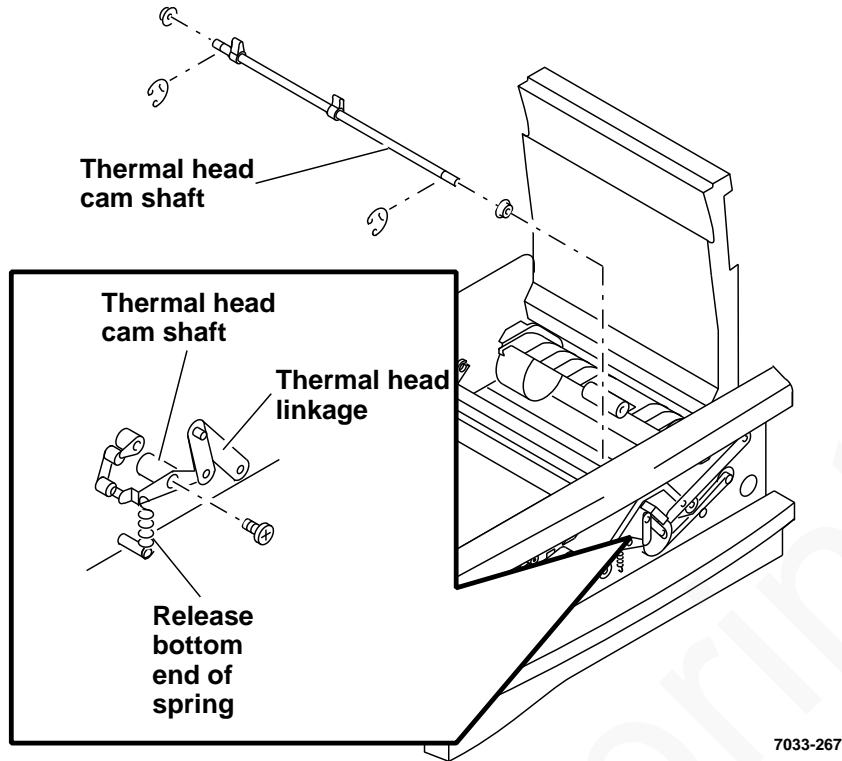

Figure 18. Thermal head cam shaft removal
- c. Release bottom end of linkage spring (Figure 18).
NOTE: Ensure that the thermal head linkage is repositioned as shown in Figure 18. The right end of the linkage can be installed upside down.